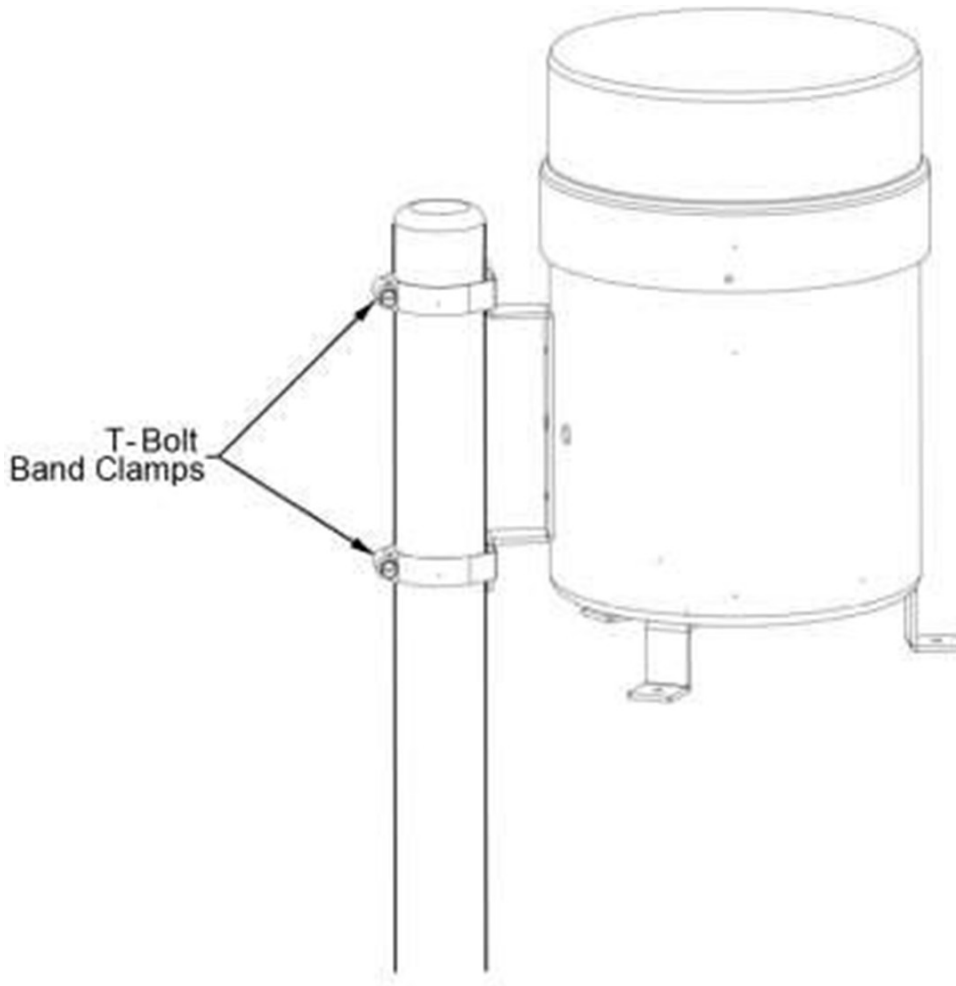

Figure 4. Mast Mounting
1. Use T-bolt band clamps or U bolts to secure the rain gauge to a mast as shown in Figure 4. When securing the rain gauge to the standard 2.5" NPT mast, keep in mind that the outside diameter of the mast is 73 mm (2.875") and the clamp should have a circumference at least 20 mm (0.75") more than the circumference of the mast to hold the rain gauge securely. The mast should be high enough so that the bottom of the rain gauge is 1.2 m (4 ft) above the ground.